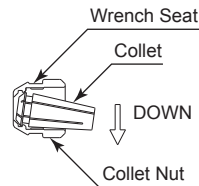
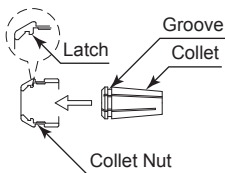

Fig. 12
Fig. 13
- ② The collet and collet nut are secured by a groove in the collet and a flange in the collet nut. To remove the collet hold the collet nut in one hand and push diagonally down on the collet. The collet should be released (Fig. 12).
- ③ To install the collet, hold the collet at a slight angle, and insert it into the collet nut ( Fig. 13). Press the collet in the collet nut by positioning the collet in the collet nut and pressing down on flat surface (Fig. 12).